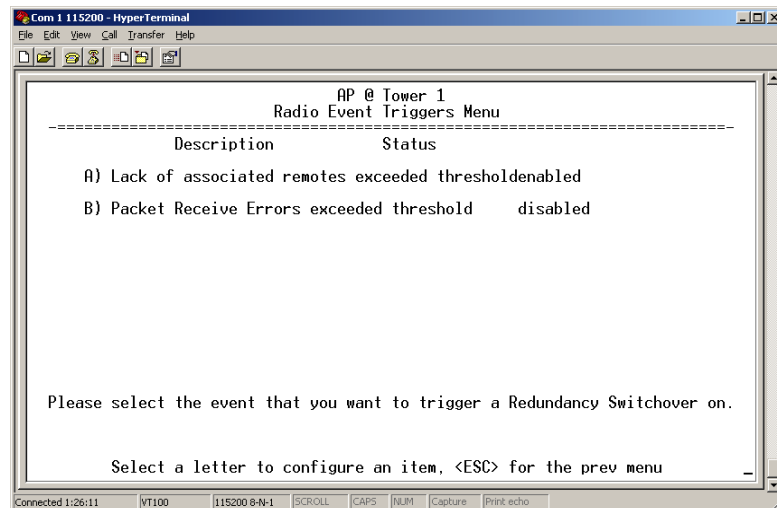

Figure 3-35. Radio Event Triggers
- **Radio Event Triggers**—This selection presents a submenu (Figure 3-35) where you can set/view the trigger status for Radio Events, such as a loss of associated Remotes or excessive packet errors.